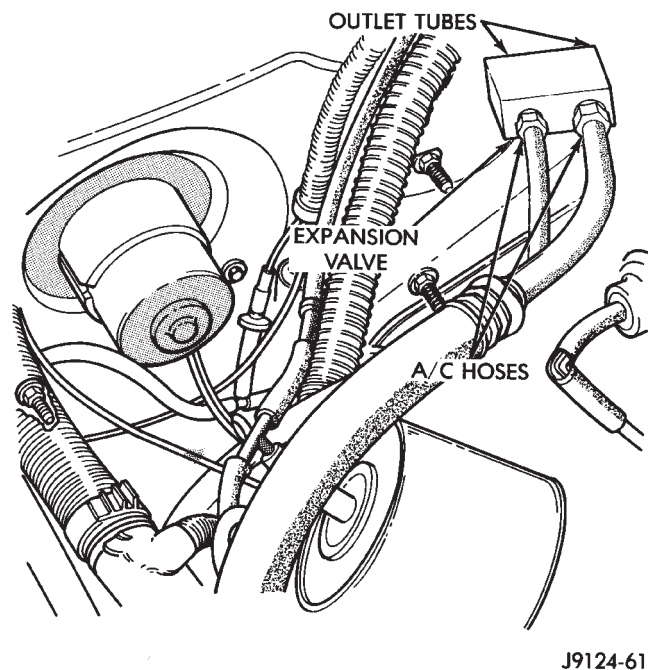

Fig. 30 Expansion (H) Valve
- (1) Discharge the A/C system.
- (2) Remove the coolant bottle and bracket.
- (3) Disconnect A/C hoses from the expansion valve (Fig. 30).
- (4) Disconnect the expansion valve from the evaporator core inlet and outlet tubes. Remove the expansion valve.
- (1) Install the expansion valve. Connect the expansion valve to the evaporator core inlet and outlet tubes.
- (2) Connect A/C hoses to the expansion valve (Fig. 30).
- (3) Install the coolant bottle and bracket.
- (4) Charge the A/C system.
- (5) Perform the leak test.